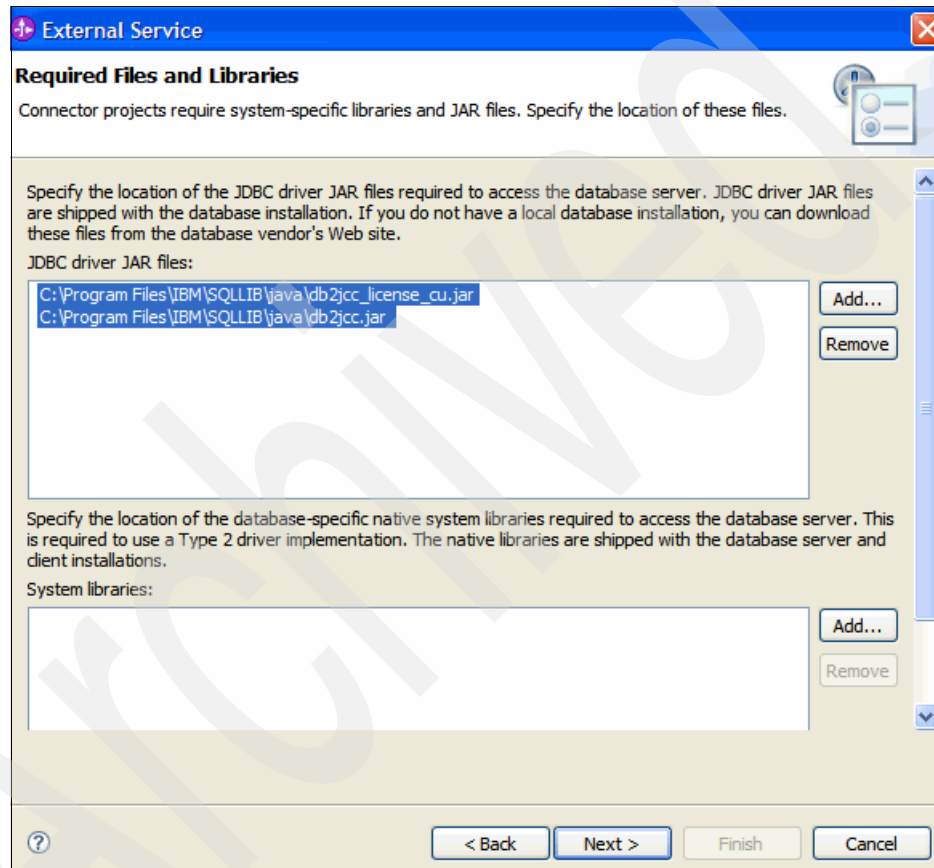

Figure 6-10 Selecting the JDBC driver JAR files
5. In the External Service – Required Files and Libraries window (Figure 6-10):